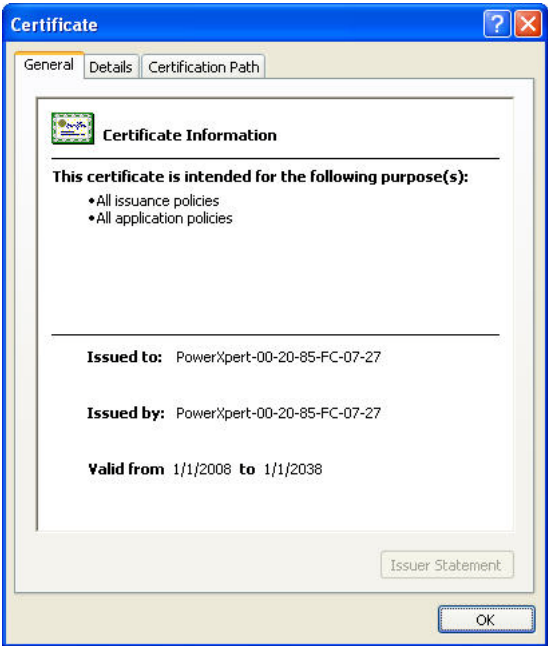

Figure 48. View Certificate
- d. Click **View** to open the Certificate window (see Figure 48).